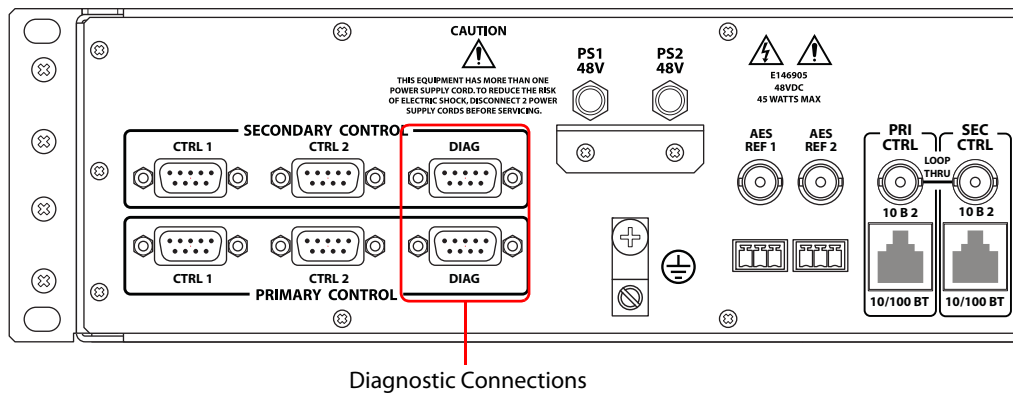

Fig. 2-5: Diagnostic Connections (Rear View)
- 1 Locate the diagnostic connections on the rear of the EC9535, as shown in Figure 2-5. The diagnostic connections are labeled 'DIAG'.